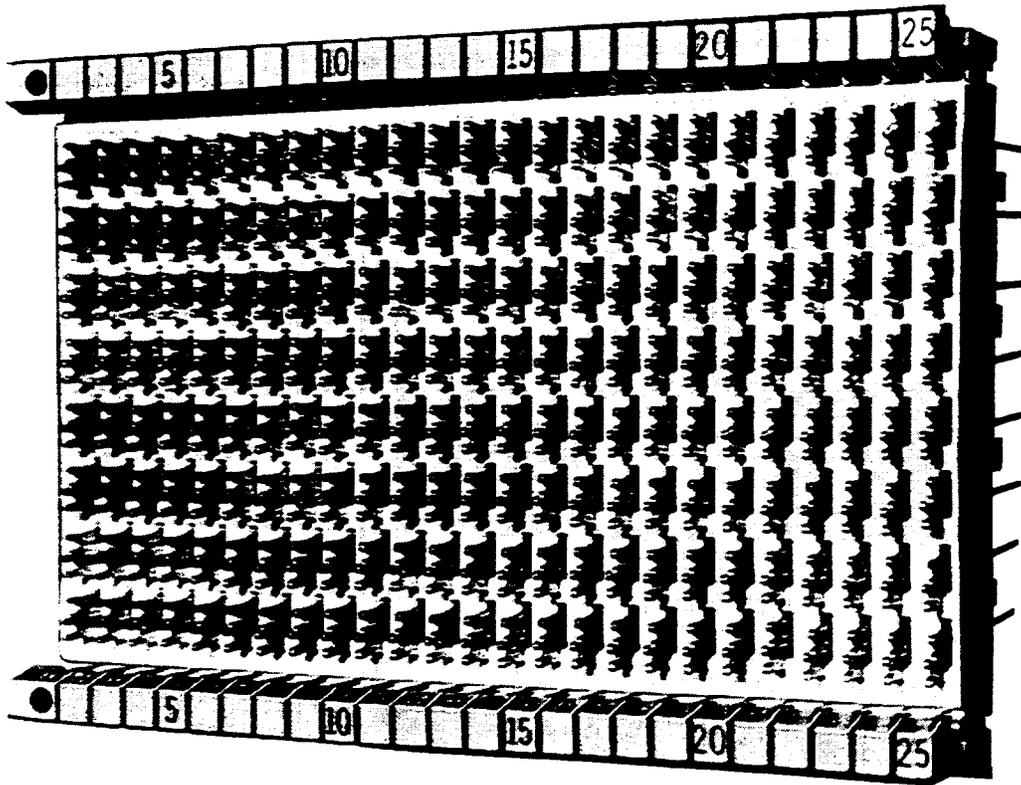
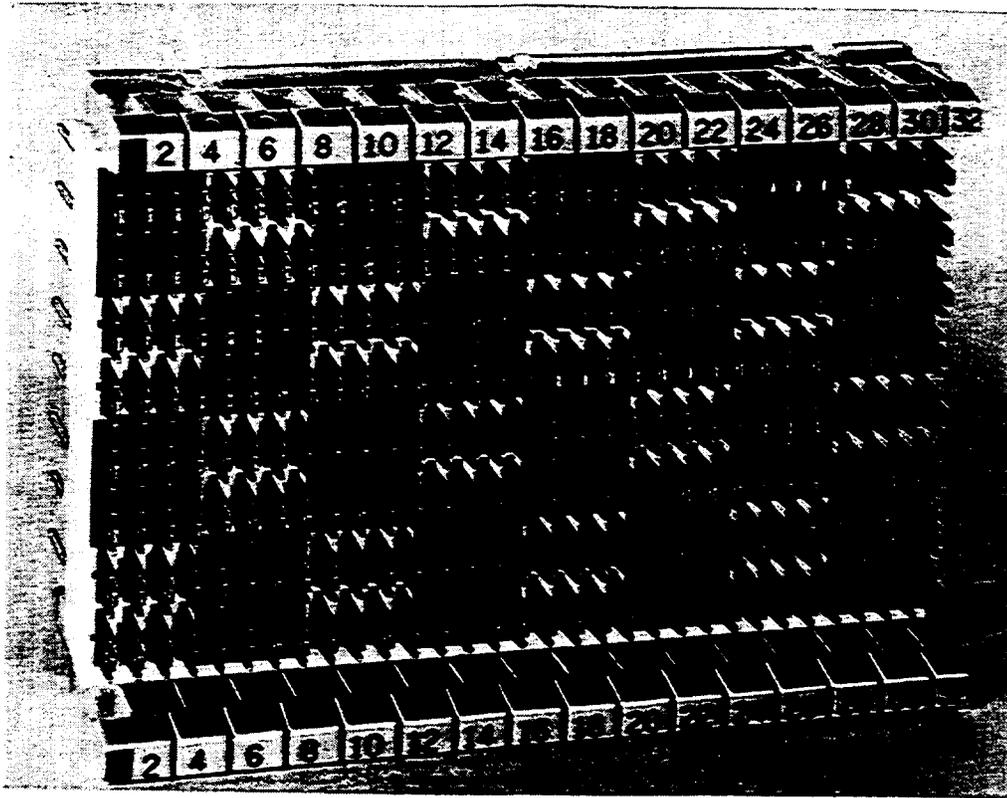

Figure 1—78-Type Connecting Block — 100-Pair Terminal Arrangement
Figure 2—112-Type Connecting Block — 128-Pair Terminal Arrangement
2.01 The 78-type connecting blocks (Figure 1) are used on earlier *COSMIC* I and II distributing frames that were installed prior to the availability of the 112-type connecting blocks and the 112-type connecting blocks (Figure 2) are used on all *COSMIC* distributing frames. *COSMIC* I and II distributing frames can mount the high density 112H-Type connecting blocks only if the ED-6C142-30, G3 or G4 shelf mounting adapters are used.